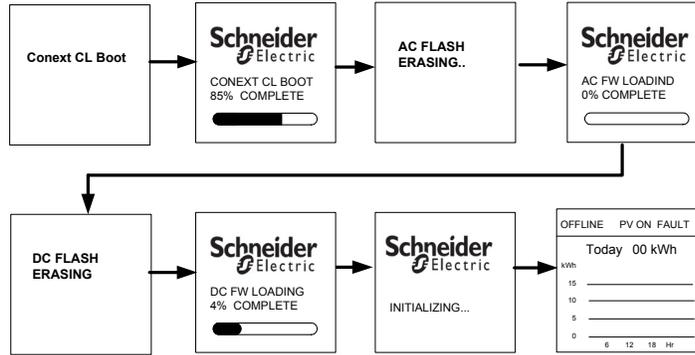

Figure 1-4 DUI screen
- Once Control Boot loader files are copied successfully, inverter goes for reboot to upgrade new control processor boot loader. These status can be monitored on DUI as standard firmware upgrade sequence of DUI screens as shown in Figure 1-4 on page 1-6.